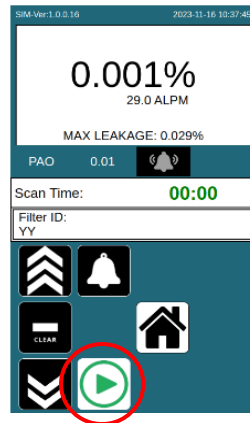

Figure 11. Begin recording
Step 4. To begin saving scans, press the green “Play” key (Figure 11)